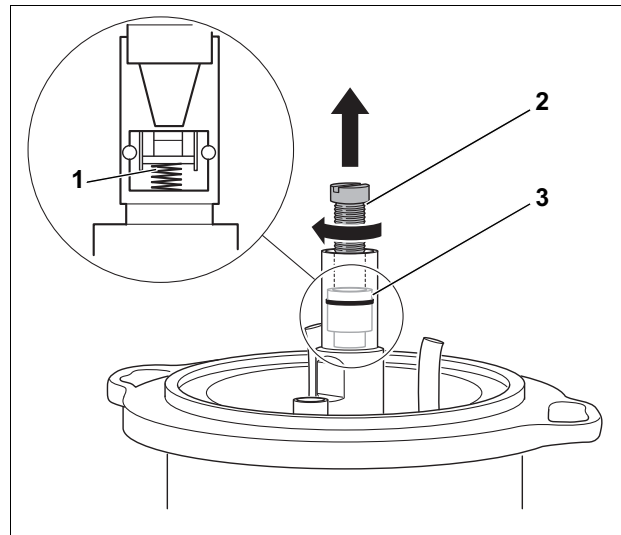

Fig. 26 Replacing shutoff valve
The shutoff valve (Fig. 26, **Item 3**) in the oil preheater works like an after-drip preventer. The oil pump forces the oil through the shutoff valve when it is operating. When the pump switches off, the shutoff valve is closed by the force of the spring (Fig. 26, **Item 1**).
- Screw in the M5x50 bolt (Fig. 26, **Item 2**) and pull out the shutoff valve (Fig. 26, **Item 3**).